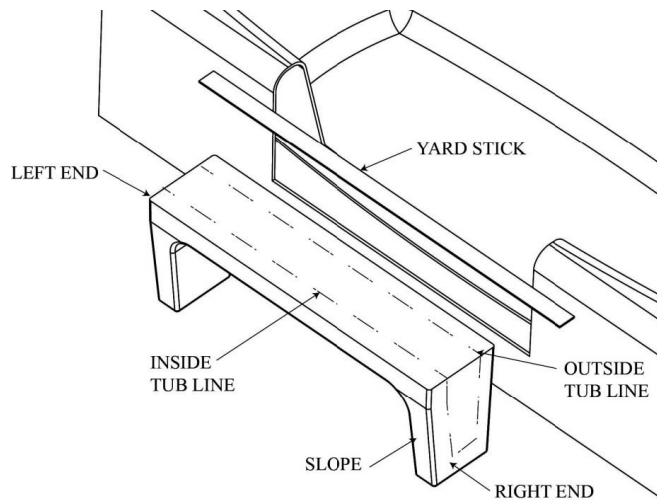

FIGURE 4
- Place step as shown and connect each side of the outside tub line using a yard stick (Figure 4).